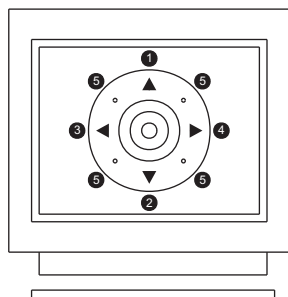

Figure 1
⑤ DIAGONAL
Push the joystick diagonally, the camera moves to that direction (direction ⑤ on figure 1)